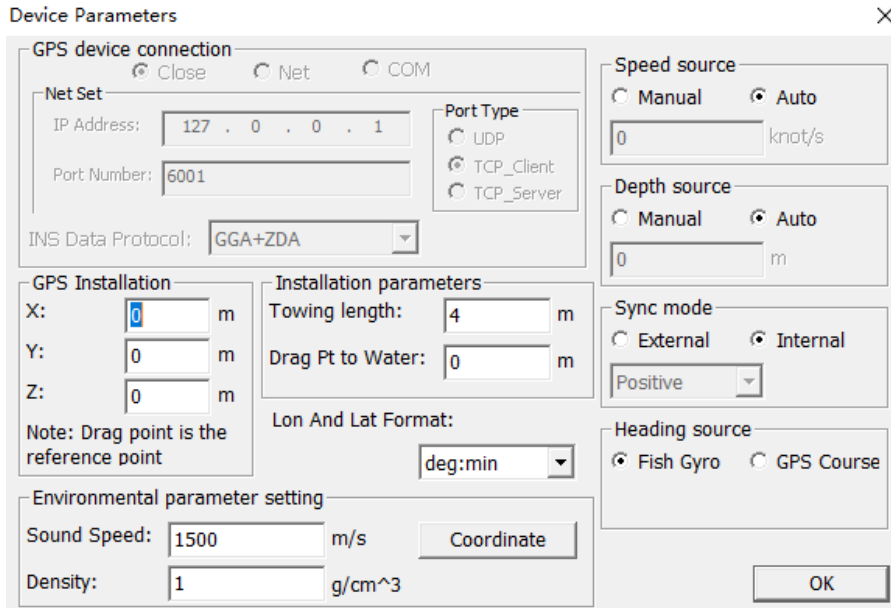

Figure 6.8 Device Parameters Setting
- (4) The "Device Parameter Setting" button is mainly used to set basic parameters such as external GNSS settings, such as coordinate system settings, GPS installation position, towline length, tow point height, ship speed and sound speed during the side scan sonar operation process as shown in Figure 6.8.